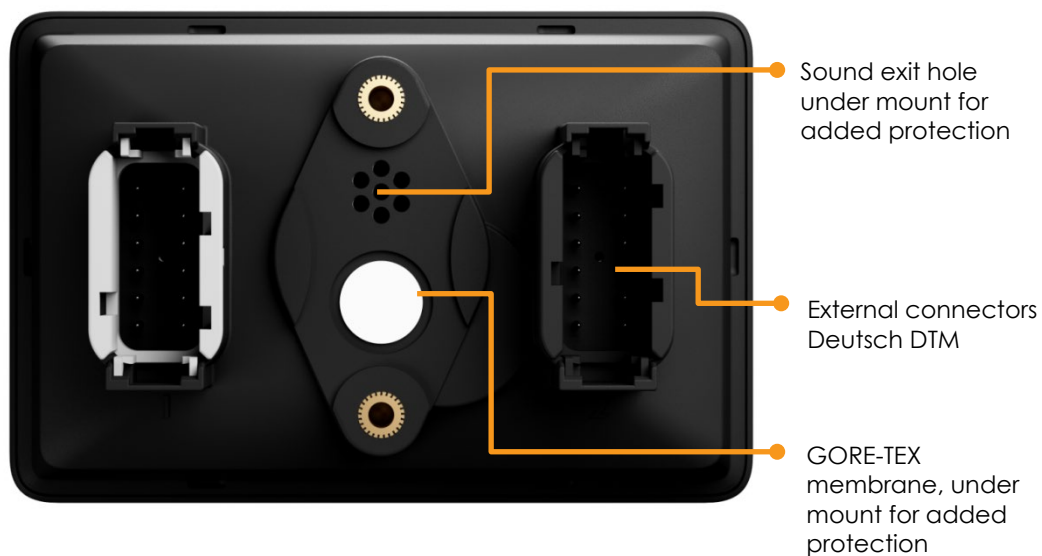

Figure 3: CCpilot VI rear side view
- The device has a ventilation membrane, refer to Figure 3 for the location. For proper ventilation of the device, dirt and water must be prevented from accumulating and covering the membrane. Be cautious not to insert objects which may puncture the membrane. Doing so will violate the IP-classification and void the warranty of the device.